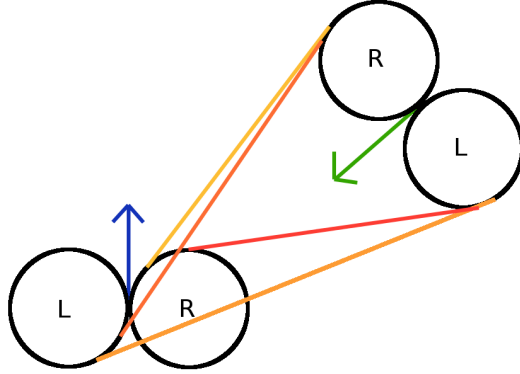

Figure 2: Valid Tangent Lines
For each pair of circles (RR), (LL), (RL), (LR), there should be four possible tangent lines, but note that there is only one valid line for each pair (Shown in Figure 2. That is, for the RR circles, only one line extending from the agent's circle meets the goal's circle such that everything is going in the correct direction. Therefore, for any of the CSC Trajectories, there is a unique tangent line to follow. This tangent line makes up the 'S' portion of the trajectory. The points at which the line is tangent to the circles are the points the agent must pass through to complete its trajectory. Therefore, solving these trajectories basically boils down to correctly computing these tangents.